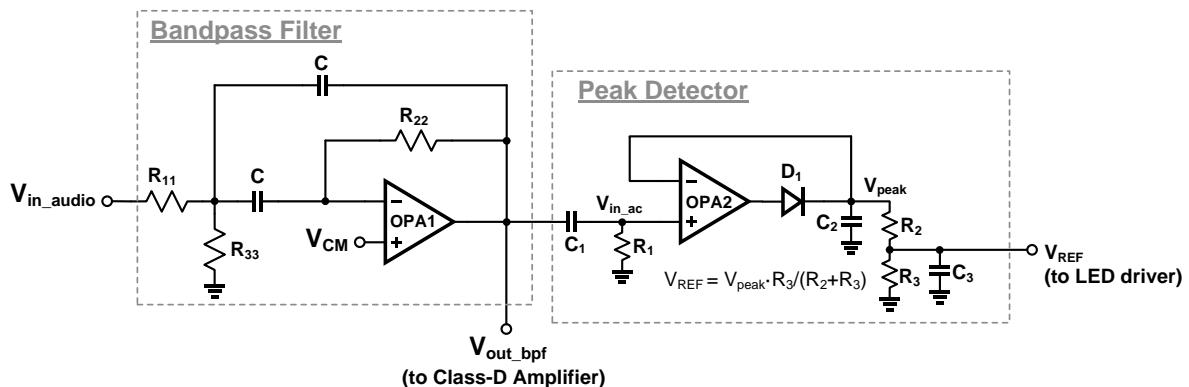

Figure 4-5 Bandpass filter and peak detector circuit
The objective of experiment-6 is to design a bandpass filter and peak detector shown in Figure 4-5. Audio input (V_{in_audio}), which is a fixed frequency sinusoid tone, is used as input to the bandpass filter. The bandpass filter is designed to respond to a desired frequency tone and reject other frequencies. Output of the bandpass filter is converted to dc voltage (V_{REF}) using the peak detector. The common mode signal (V_{CM}) is set to $V_{DD}/2$ which can be generated from a resistor divider as it was done in experiment-1 (Figure 2-14).
3. Design and simulate the entire circuit shown in Figure 4-5 with above calculated values. Verify the operation with measurements 1 to 10.